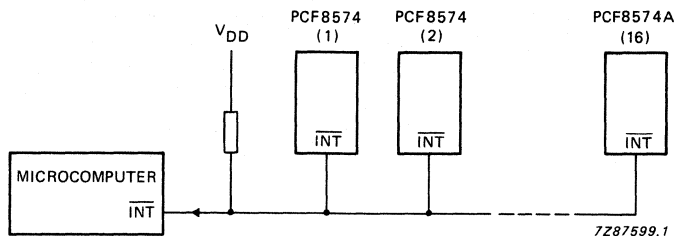

Fig. 13 Application of multiple PCF8574s with interrupt.
**Interrupt** (see Figs 13 and 14)